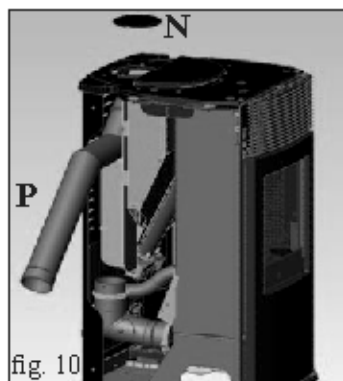

fig. 10
- Remove the cast iron cap (N - fig. 10) resting on the top and fit the flue pipe outlet (P - fig. 10) from the side of the stove.